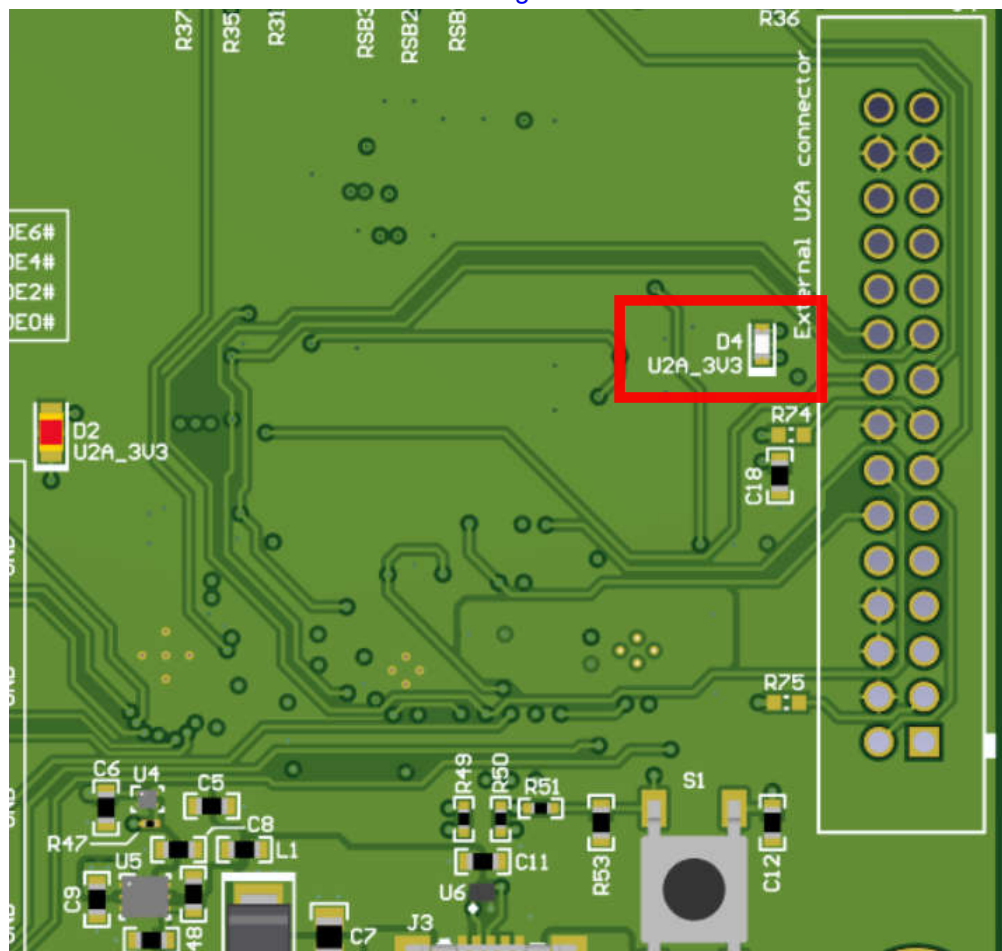

Figure 2-1. USB LED
- iii. Click *Identify* to blink LED shown in Figure 2-1. After clicking the *Identify* button, the LED flashes quickly at about 0.5 second on, 0.5 second off for about 5 seconds. This confirms the connection to the board. However, be aware that USB2ANY devices connected to the PC, but not attached to a TICS Pro instance, can blink at a slow rate of 1 second on, 1 second off continuously.